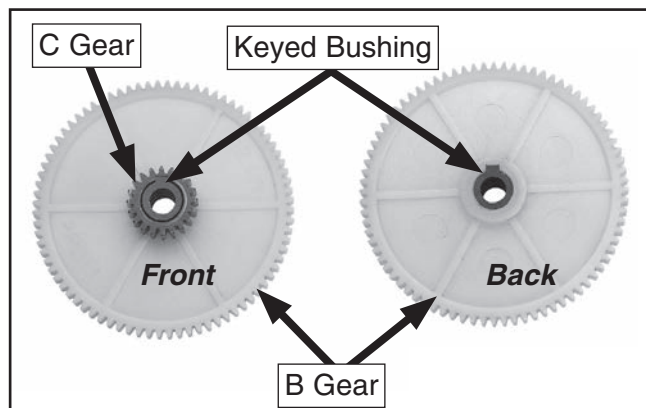

Figure 59. B/C change gear and keyed bushing (gears removed for clarity).
3. Gather 40T, 65T, and 50T gears per change gear chart. The C gear, which is indicated by a "/", is installed on existing B/C change gear keyed bushing (see **Figure 59**).
Note: Depending upon configuration, C gear may not be 20T, as shown in **Figure 59**.